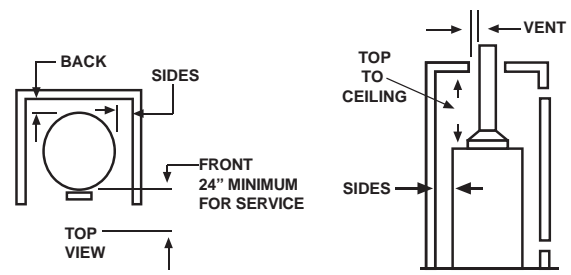

FIGURE 4.
- Figure 4 may be used as a reference guide to locate the specific clearance locations. A minimum of 24 inches of front clearance should be provided for inspection and service.